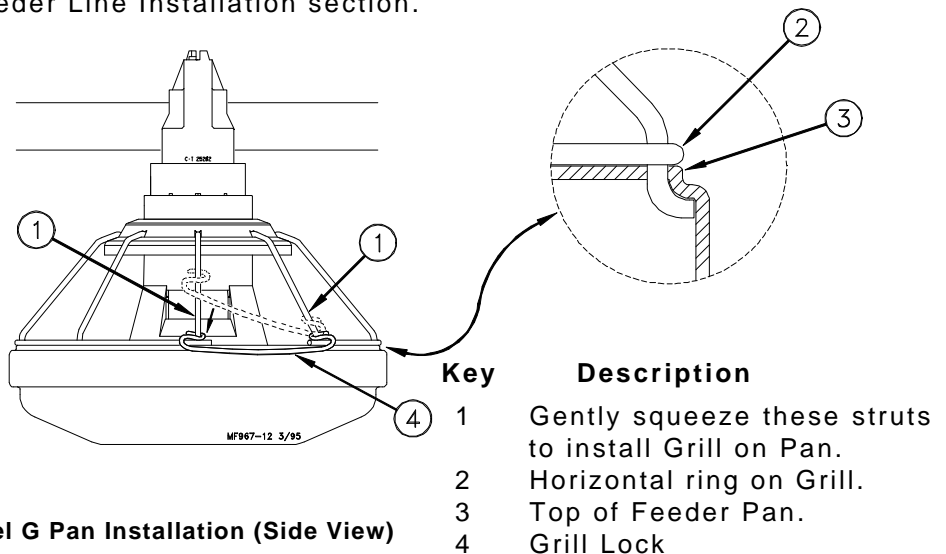

Figure 28. Model G Pan Installation (Side View)
3. Squeeze the Grill Struts together, at the opening, to allow the Grill Assembly to be seated in the Feeder Pan, as shown in **Figure 28**. Notice that the steel ring on the Grill Assembly, rests on the lip of the Feeder Pan. See the Detail Diagram in **Figure 28**.
4. If the optional Grill Lock is to be used, install it as shown in Figure 28.